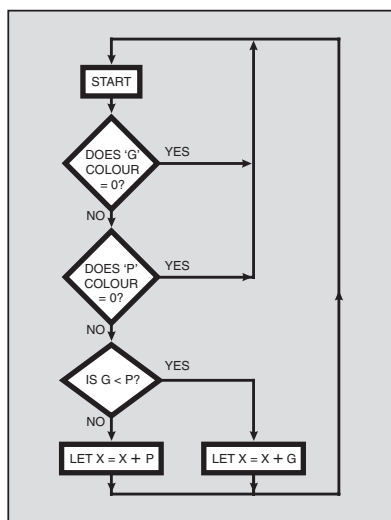

Fig.2. Colour check flow diagram.
Once the quantity of colours has been established, the quantity of each of the colours is compared in turn to calculate the number of correct colours in the wrong order. There are four comparisons in total and the procedure for incrementing the Wrong register (X) uses an algorithm that is shown in the flow diagram in Fig.2.